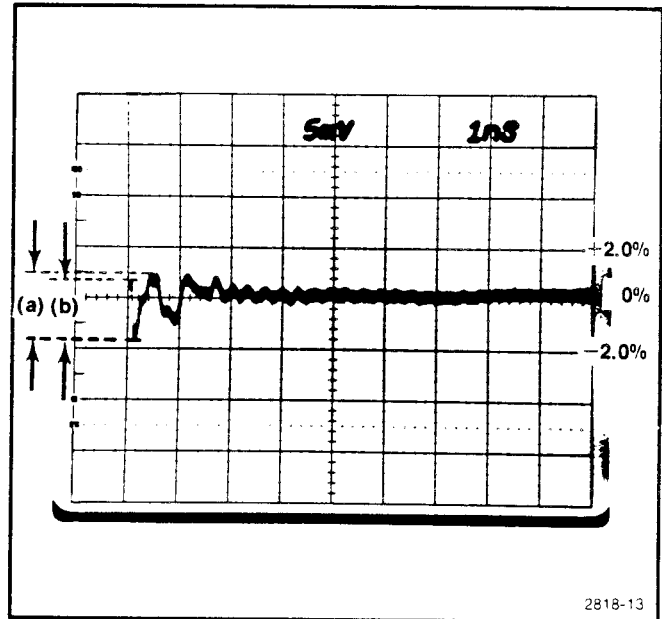

Fig. 4-3. Fast edge pulse leading edge. (a) $\leq \pm 3\%$ aberrations. (b) $\leq \pm 4\%$ adjacent peaks.
Refer to Fig. 4-3 for following check:
b. Adjust 7S11 DC OFFSET ± 1 V control to lineup top of pulse with horizontal center graticule line (see Fig. 4-3).
Interaction between R1200 and C1100 may require slight readjustment to obtain the optimum displayed pulse. See Fig. 4-3.